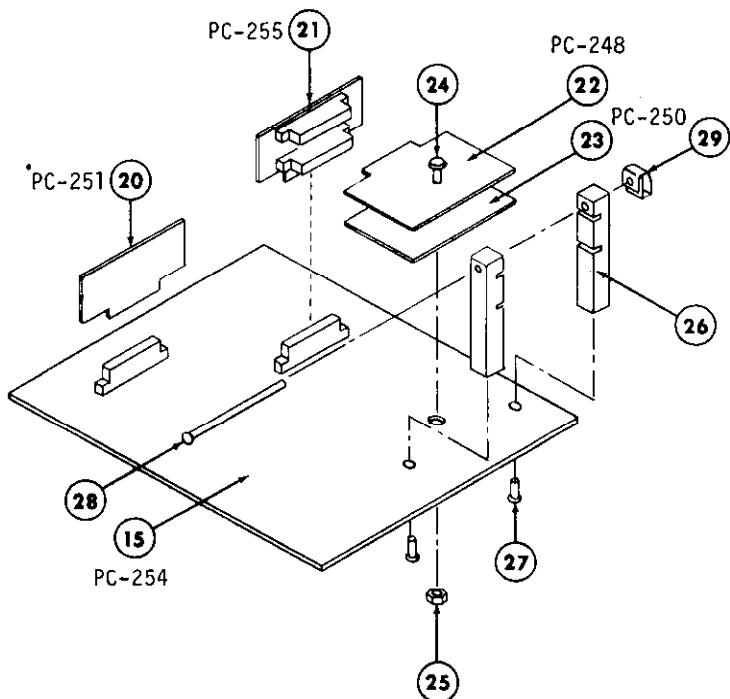
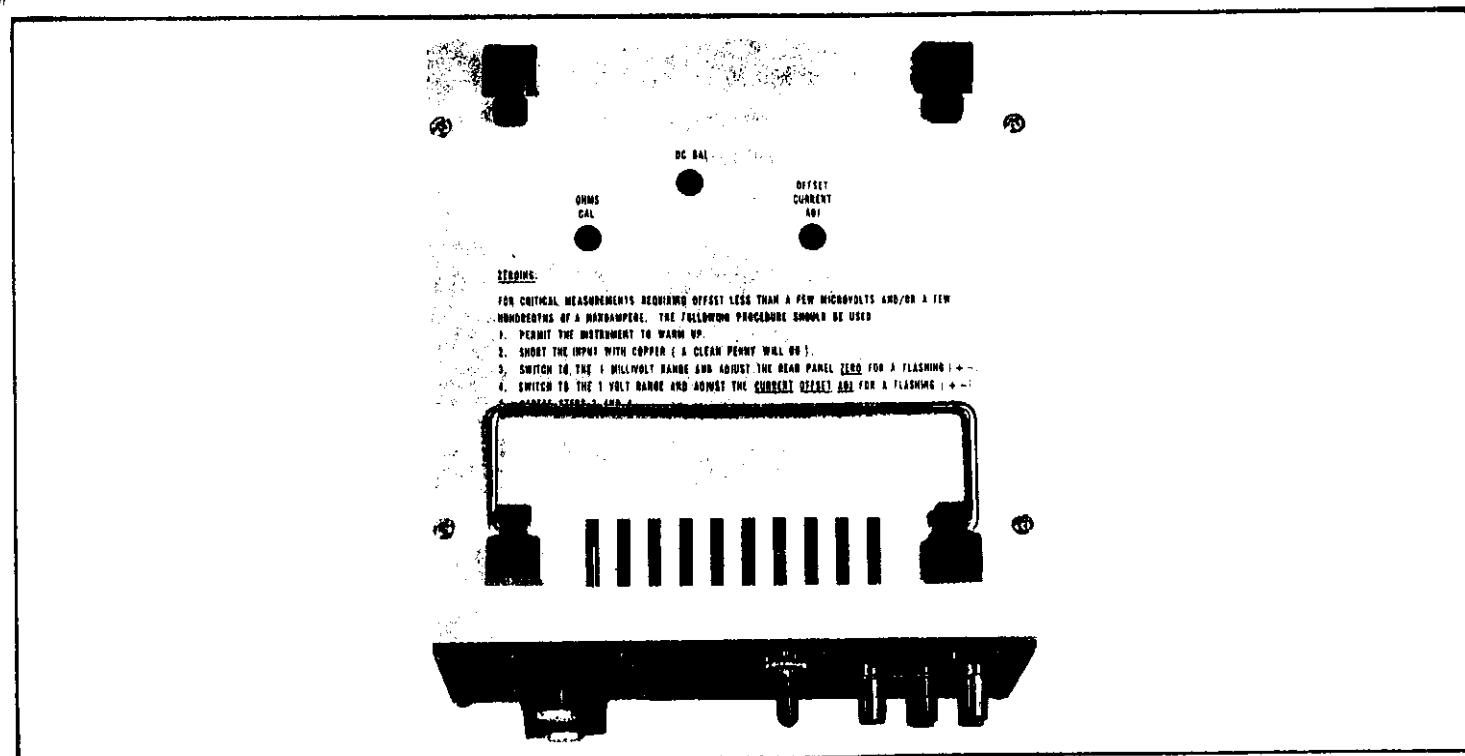

FIGURE 16. PC Board Locations.
FIGURE 18. Chassis, Bottom View.
c. Printed Circuit Board Installation. The location of all circuit boards is shown in Figure 16. To gain access to circuit boards PC-248, PC-250, and PC-255 the following procedure should be used.
1. Remove the two Phillips head screws from the underside of PC-254 as shown in Figure 16.
3. Remove the long slotted screw and fastener as shown in Figure 16.
a. Offset Current Adjust (R733). This control is a screw driver adjustment accessible from the bottom cover as shown in Figure 18.
b. Ohms Cal Adjust (R738). This control is a screw driver adjustment accessible from the bottom cover as shown in Figure 18.
c. DC Balance Adjust (R722). This control is an adjustment accessible from the bottom cover as shown in Figure 18. Caution! Use an insulated screw driver to avoid contacting the chassis.
2. Power Supply Checkout. All the power supply voltages can be measured at test points on printed circuit board PC-254 as shown in Figure 18.
1. Power Supply. The +15V supply should be adjusted for +15.00V dc $\pm 0.050V$ using potentiometer R209 on PC-254 as shown in Figure 18. The -15V and +3.6V supplies cannot be adjusted since the +15V supply is used as a reference voltage.
2. Clock Frequency. Measure the clock frequency at the "CLOCK" test point on PC-254 as shown in Figure 16. The frequency should be adjusted for a nominal 10kHz, ± 20 Hz using potentiometer R605 on PC-254 as shown in Figure 18.
3. Zero Adjust. Temporarily disconnect front panel zero control R1215 by removing connector J1209 (located on PC-348). Place a shorting wire across the Input Terminals (red and black). Connect voltmeter (A) to the analog OUTPUT (J103). Adjust the rear-panel ZERO Control (R505) for zero on the 1 mV range.
5. DC Balance. With voltmeter (A) connected to the OUTPUT adjust the OFFSET CURRENT ADJ. Control (R733) for zero on the 1V range. The OUTPUT should be adjusted within ± 1 millivolt on the 1mV range and within ± 0.1 millivolt on the 1V range. Repeat the adjustments of R505 and R733 until the OUTPUT is within tolerance on both the 1mV and 1V ranges simultaneously.